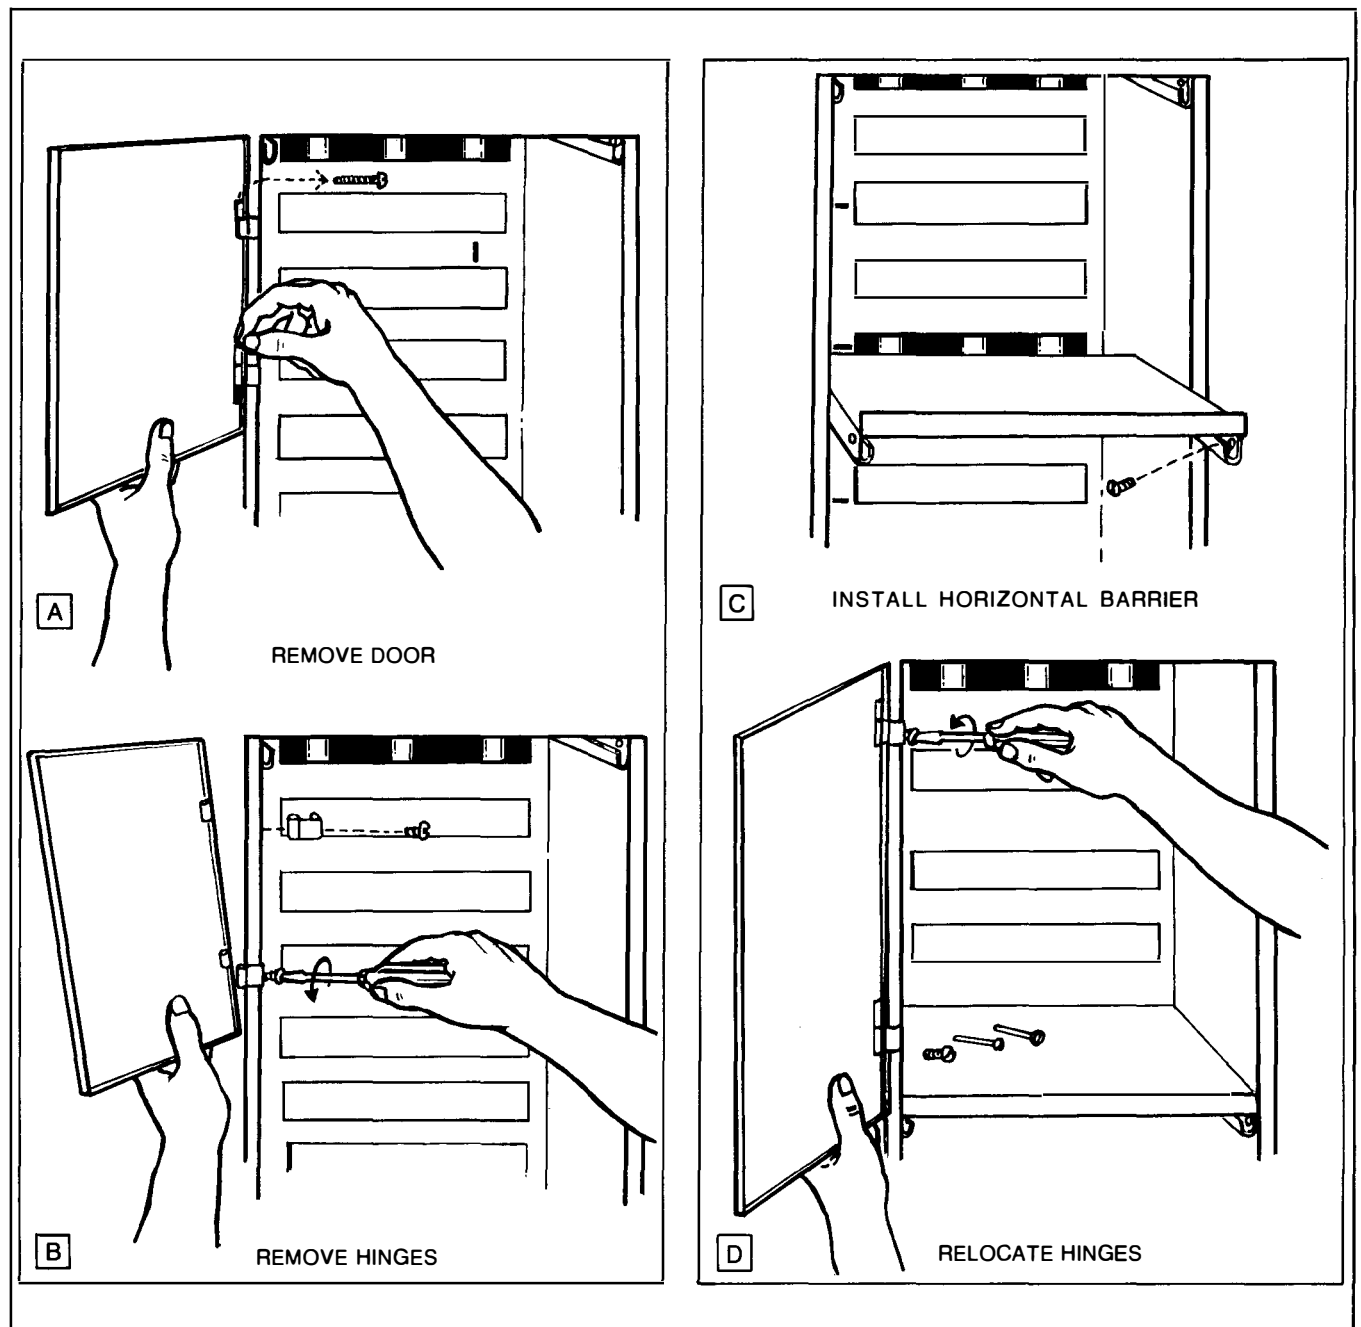

Figure 23. Draw-Out Unit Addition, Steps A, B, C, and D.
1. Remove the cover(s) over the blank section(s) equal to the drawout unit height. (Steps A and B, Figure 23).
2. Horizontal drawout unit barriers (see Figure 2) are installed by sliding the rear tabs into mating slots in the vertical barriers (see Figure 2) and fastening the front into place with two self-tapping screws in the predrilled vertical channels (see Figure 2). (Step C, Figure 23).
3. Use the new door as a template to locate the positions of the hinges. Self-tapping screws in predrilled holes are used to bolt the hinges to the left hand corner channels. Remove or relocate any excess hinges left from the removal of the covers performed in Step 1 above. (Step D, Figure 23).